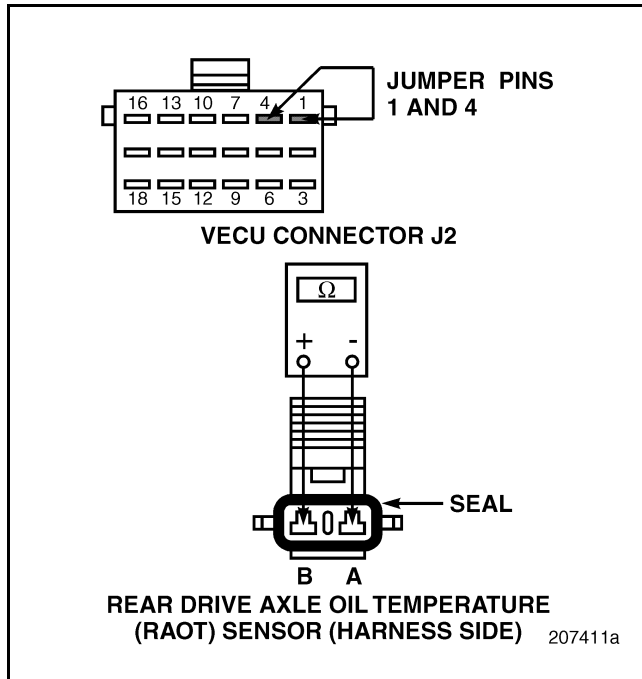

Figure 257
4. Check for continuity between pins A and B of the Rear Drive Axle Oil Temperature (RAOT) Sensor harness connector (see Figure 257).